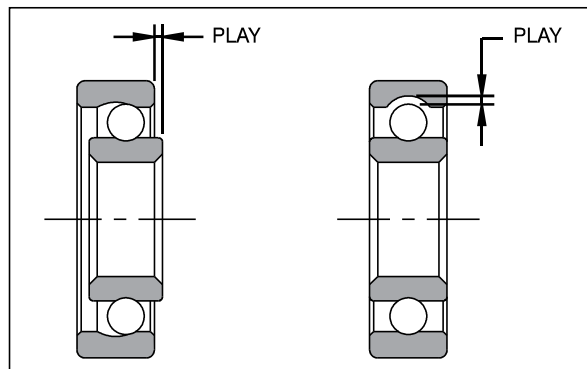

Fig. 3.179
- Inspect the play of each bearing before fixing it. Hold inner race and rotate the outer race by hand and observe for any abnormal noise and smooth rotation. Replace bearing with a new one if found defective. (Fig. 3.179)